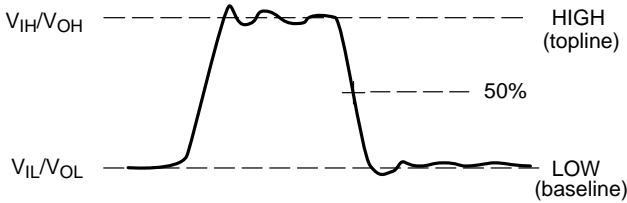

Figure 5. HIGH and LOW Waveform Definition
**AC HIGH and LOW Levels** – The HIGH level referred to in this application note corresponds to the IEEE “topline,” and the LOW level corresponds to the IEEE “baseline” as shown in Figure 5. The 50% point lies halfway between the HIGH and LOW levels. Refer to IEEE Standard 194–1977 for further voltage level information.